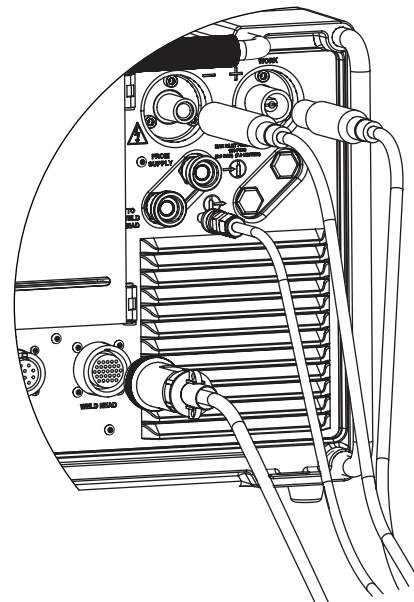

Fig. 8—Connecting the Weld Head Assembly to the Power Supply
1. Align the notch on the weld head quarter-turn connector with the small tab in the M200 power supply socket labeled WELD HEAD (Fig. 8) and insert the connector. Turn it clockwise to lock it in place. An audible click indicates that the connection is locked. This connection provides the control signals to drive the weld head.